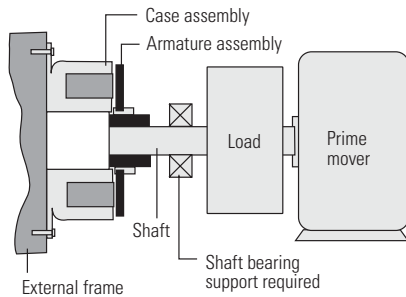

Figure 3
**Figure 3** - Used to stop or hold the armature and load to which it is attached. Units are furnished with coupling-type armature hubs. The case assembly is flange mounted for fastening to a bulkhead.